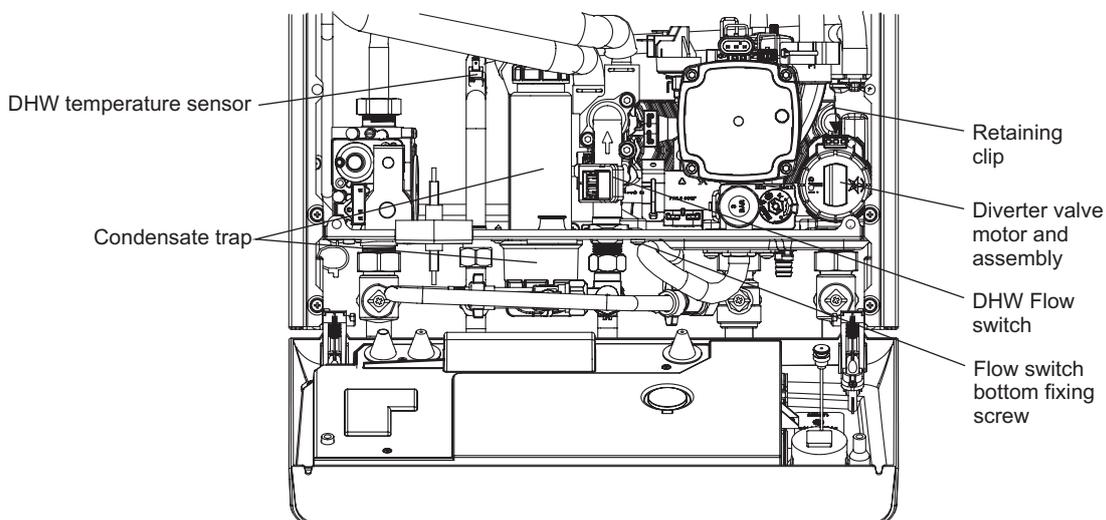

Fig. 7.3
7.13 DIVERTER VALVE MOTOR - Fig. 7.3
7.15 DHW TEMPERATURE SENSOR - Fig. 7.3
1. The DHW sensor is positioned in the hot water outlet pipe to the left of the flow switch, see Fig. 7.3. Unplug the two connections and unclip the sensor from the pipe.
Note: The DHW sensor should be on the sloped part of the DHW pipe. See Fig. 7.3.
7.19 DHW FLOW SWITCH - Fig. 7.3